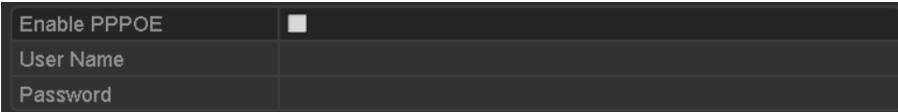

Figure 9. 1 PPPoE Settings Interface
2. Select the **PPPoE** tab to enter the PPPoE Settings interface, as shown in Figure 9. 11.